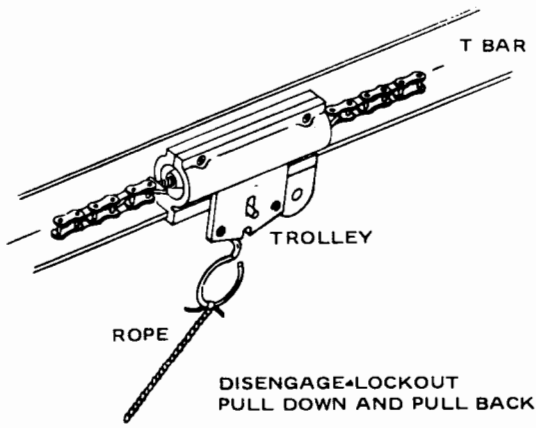
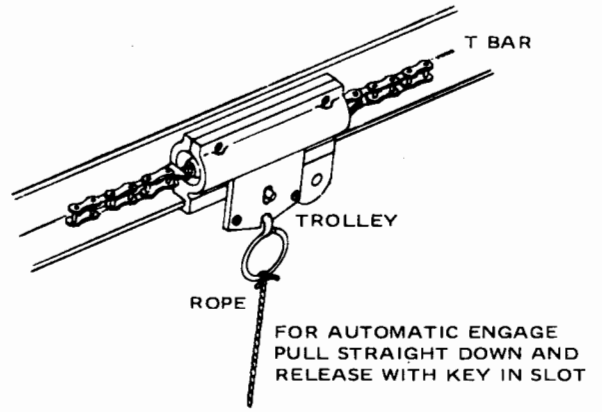
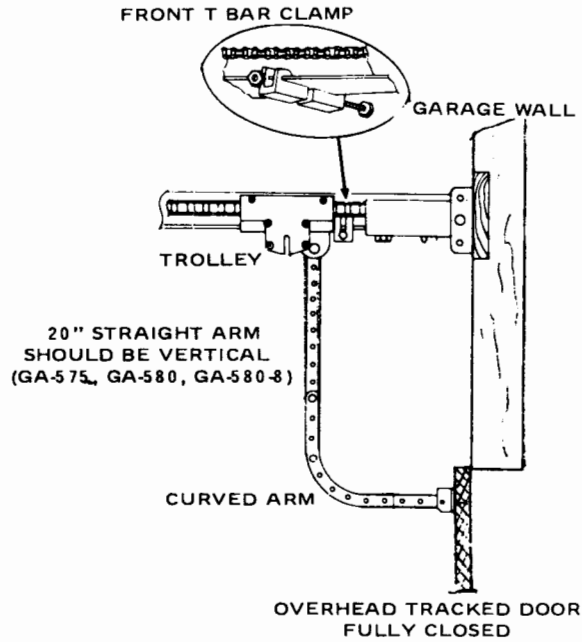

FIGURE 1A
FIGURE 1B
FIGURE 1C
<p>1. Front T Bar Clamp/Rubber Bumper and Close Limit Switch (See para. (2.4) and (2.4.1) page 8; and Figure 2 page 6)</p>	<p>With door open, disengage trolley from latch assembly: Pull trolley rope down and lock toward rear as shown in Figure 1A. Manually close door: The front rubber bumper/T bar clamp must be in front of the trolley. With door fully closed, the door arm should be vertical and the trolley should be against the front rubber bumper. (Figure 1C) With the trolley against the front rubber bumper, pull its rope down into automatic engage position. (Figure 1B) Press and hold-in the PB-12 Inside Pushbutton: The chain latch assembly should travel forward until it automatically engages the trolley. Continue holding PB-12 in (with the motor running, the 9" pulley and limit shaft should keep turning and the clutch should slip) until the Close-Limit Wheel activates (opens) the Close-Limit Switch.</p>
<p>2. Rear T Bar Clamp/Rubber Bumper and Open-Limit Switch (See para. (3.5) and (3.5.1) page 8; para. (4) page 10; and Figure 2 page 6)</p>	<p>When fully opened, the bottom of the door should be even with the header and the trolley should be against the rear rubber bumper that is held in place by the rear T bar clamp. With the door closed, disengage the trolley from the latch assembly as shown in Figure 1A. Momentarily short between terminals #1 and #2 of TB1. When latch is near the rear rubber bumper, disconnect the power cord—stopping the operator; and turn the 9" pulley by hand until latch notch is aligned over rear rubber bumper. (Figure 1D) With power cord disconnected, align Open-Limit Wheel: Lift Limit-Wheel Retainer spring out of Open-Limit Wheel (top wheel); and turn the top wheel so that it moves upward on limit shaft until it moves the Open-Limit Switch Lever (opening switch) and an audible "Click" is heard. NOTE: Reseat the wheel retainer spring in notch of Open-Limit Wheel. (See Figure 2) Pull trolley rope for automatic engagement as shown in Figure 1B: Connect power cord. Momentarily short between terminals #1 and #2 of TB1; chain latch assembly should move forward until it automatically engages the trolley—resting against the front rubber bumper—and the operator should be turned off.</p>
<p>7. Chain Bracket (Figures 1D and 8)</p>	<p>Does not effect normal operation. Its purpose is to safely limit chain latch travel and is factory set. Do not remove nor relocate. If bracket should come off, reinstall as follows: Disengage trolley (Figure 1A). Run operator until latch assembly is centered over the rear rubber bumper. Secure bracket to chain 4 to 6 inches to rear of front mounting bracket on left side of T Bar (Figure 8).</p>